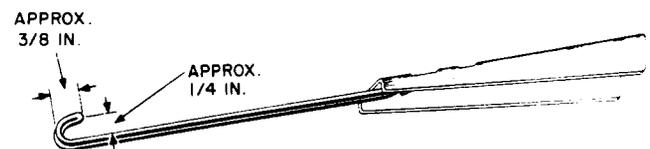
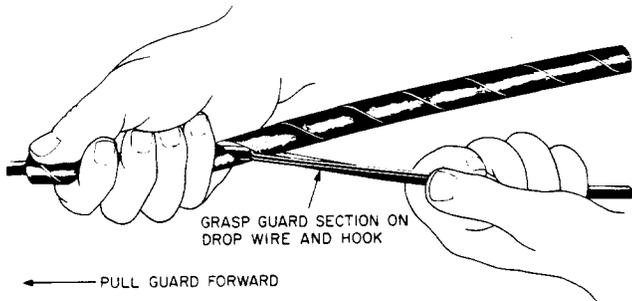
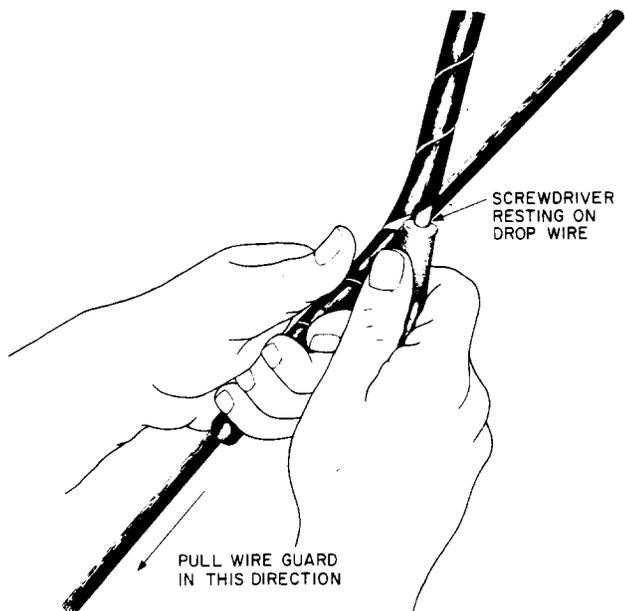

Fig. 1—Hook Fashioned From Drop Wire Clamp
Fig. 2—Placing P Wire Guard Hook Method
Fig. 3—Placing P Wire Guard Screwdriver Method
- 4.05 *P Wire* guards can be placed on drop wire by means of a hook tool fashioned from the tail wire of a drop wire clamp, or by using a screwdriver as a guide. (See Fig. 1, Fig. 2, and Fig. 3.)
already on the wire and pull guard away from the hook as shown in Fig. 2.
(3) When using screwdriver: After inserting the screwdriver blade into the part of the guard not on the wire and holding it in position shown in Fig. 3, grip the part of the guard already on the wire and pull guard away from the screwdriver.